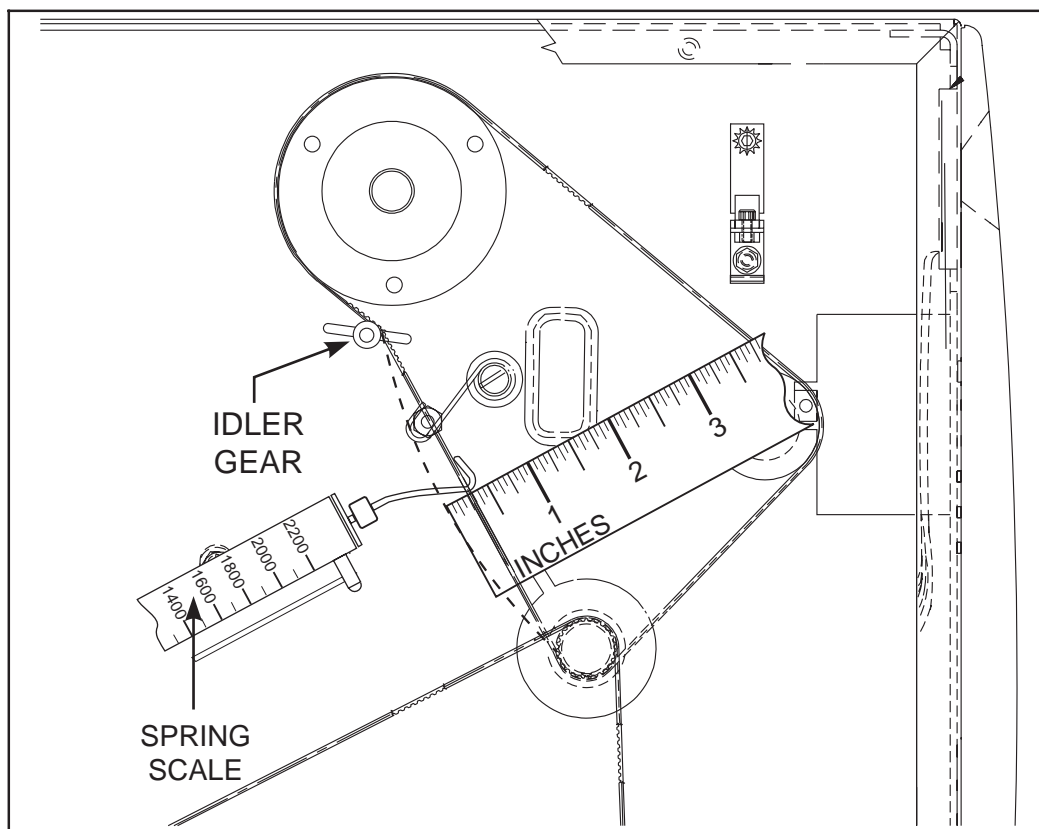

Figure 5.21 220XiII Main Drive Belt
3. Refer to Figure 5.21 and note the position of the Idler Gear used to adjust the tension of the Main Drive Belt.
5. Refer to Figure 5.21 and slide the Idler Gear Assembly toward the rear of the printer to relieve the tension on the Main Drive Belt.
7. Hook a 2200 gram spring scale to the belt as shown in Figure 5.21, and carefully slide the Idler Gear Assembly toward the front of the printer to increase belt tension.